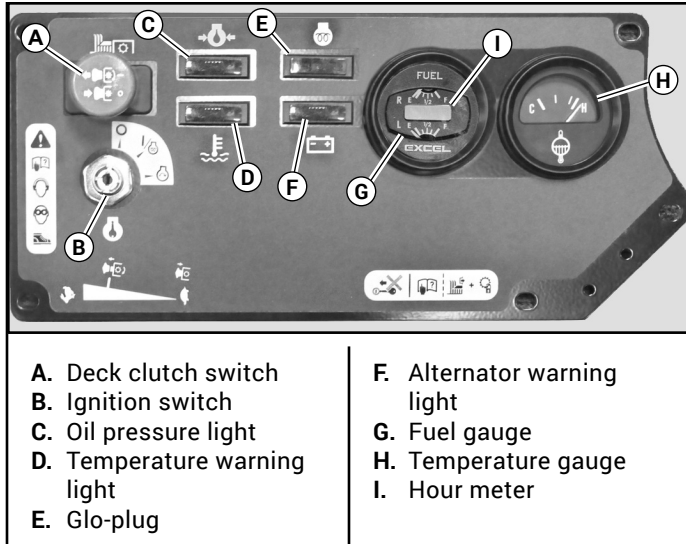

Figure 3-1
- A. **Deck clutch switch (Figure 3-1)** – this switch engages the deck. Pull the switch up to engage and push switch down to disengage the clutch.
- B. **Ignition switch (Figure 3-1)** – a three position switch: “OFF”, “PREHEAT/RUN”, and “START”. With key inserted, rotate it clockwise to “PREHEAT/RUN” position. After pre-heat has occurred, rotate the key to the “START” position; release key when engine starts, and switch will automatically return to the “RUN” position.
- C. **Oil pressure light (Figure 3-1)** – (Non Tier 4 engines only) this light comes on when the ignition switch is placed in the RUN position and stays lit until the engine is running and a safe oil pressure is developed. If light comes on during operation, shut engine off immediately and locate and correct the problem.
- D. **Temperature warning light (Figure 3-1)** – this light will come on when the engine coolant temperature reaches an unsafe level during operation. If light comes on, shut down the machine as soon as possible. Never risk continued operation when light remains on; high temperatures can severely damage the engine.
- E. **Glo-plug light (Figure 3-1)** – this light comes on when the ignition switch is turned to the “Pre-Heat/Run” position and held. It shows that power is going to the glo-plugs.
- F. **Alternator warning light (Figure 3-1)** – this light comes on when the ignition switch is placed in the RUN position and stays lit until the engine is running and the battery is being charged. If light comes on during operation, shut engine off immediately, locate and correct the problem.
- G. **Fuel tank gauge (Figure 3-1 & Figure 3-2)** – This gauge shows the fuel level for each fuel tank. The right gauge indicates the fuel level in the right fuel tank and the left gauge indicates the fuel level in the left fuel tank.
- H. **Temperature gauge and alarm (Figure 3-1)** – this gauge reflects the engine coolant temperature. If the coolant reaches an unsafe level during operation, shut down the machine as soon as possible.
- I. **Electronic hour meter (Figure 3-1 & Figure 3-2)** – registers 1/10 hour increments up to 9,999.9 total hours. Connected to the ignition switch, the meter records the accumulative time while the ignition key is switched to the RUN position.